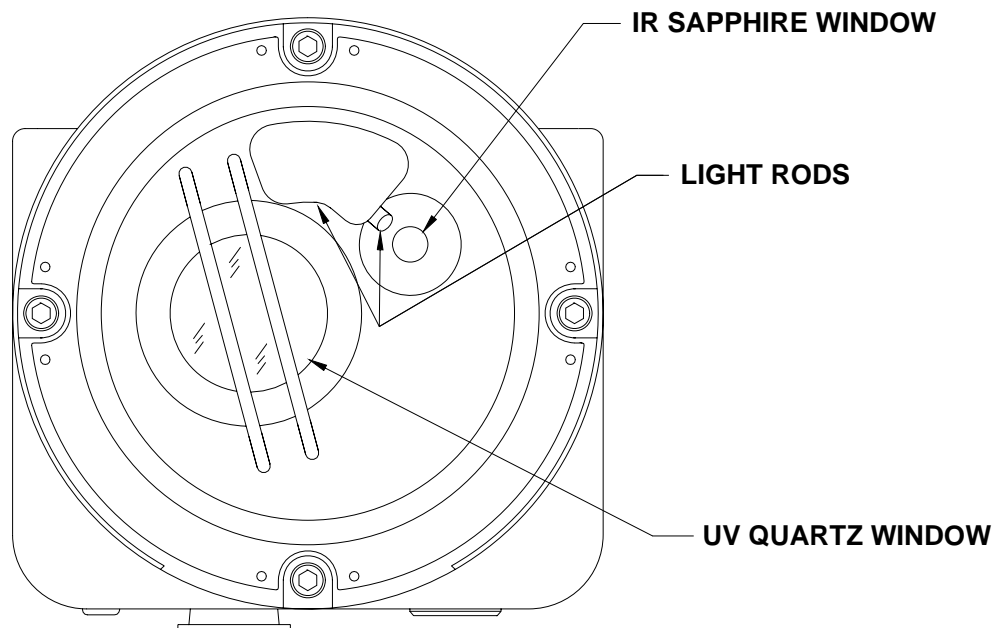

Figure 21: UV and IR Windows
4. Repeat steps 1, 2 and 3 for the light rods (Figure 21). Take care only to clean the non-coated (non - aluminum) areas of the light rods.